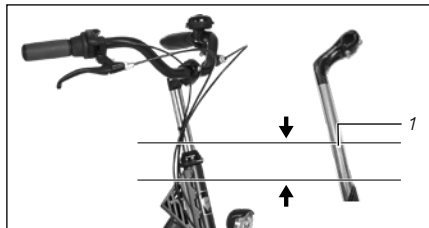

Fig.:23
- Push the handlebar stem with an internal clamp upwards until the marking on the handlebar stem with an internal clamp is not visible (see "Fig.:23 (1)").